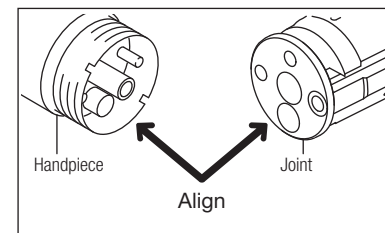

Fig. 13
- Mount the Joint into the handpiece. Make certain the pipe and joint together. (Fig. 13)